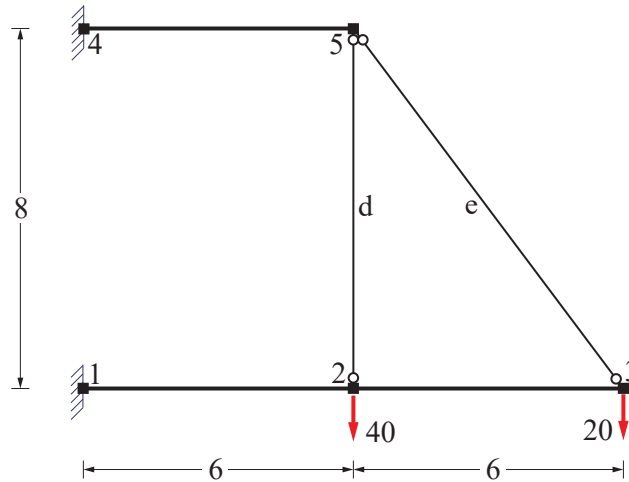

Figure 3: Braced frame with nodal forces and initial prestressing in the braces
The brace frame is subjected to a downward vertical force of 40 units at node 2 and a downward vertical force of 20 units at node 3, as Fig. 3 shows. *In addition, the braces are prestressed but the value of the initial prestressing force in each is missing.*
1. Determine the value of the initial prestressing force in the brace element d and the initial prestressing force in the brace element e from the knowledge that the nodal forces in Fig. 3 give rise to an axial force of 42.364 units (tension) in element d and to an axial force of -9.8763 units (compression) in element e.